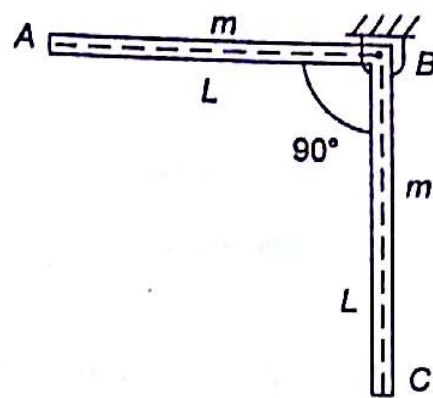

Fig. 18.17
- 18.1 A slender prismatic bar bent in at 90° is of length $2L$ and mass $2m$ as shown in Fig. 18.17. Bar is hinged at point B. It is released from rest, what is angular acceleration of bar?